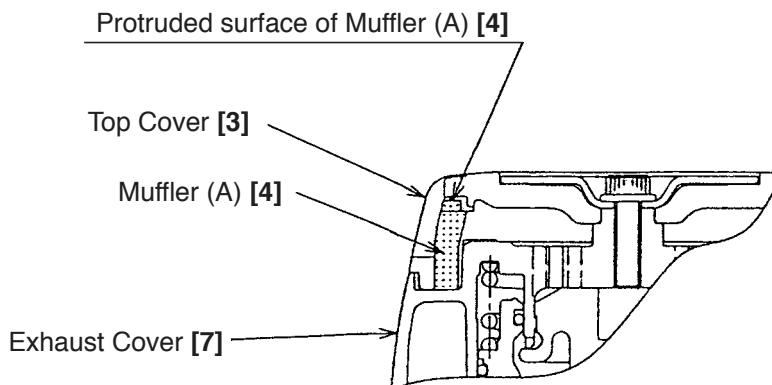

Fig. 18
- Apply lubricant (Shell Tonna Oil S32, standard accessory) to the inside of the Piston Ring [21], Cylinder O-ring (B) [12] and the Cylinder [16].
- Apply grease to Plate O-ring (B) [17], Cylinder O-ring [18] and Plate O-ring (A) [19] then mount them.
- To install the Protector [25], fit lip (B) in the concave portion of the Body Ass'y [26] from the top then fit lip (A) in the Body Ass'y [26] securely adjusting its shape.
- Mount Muffler (A) [4] facing its protruded surface to the Top Cover [3] (Fig. 18).